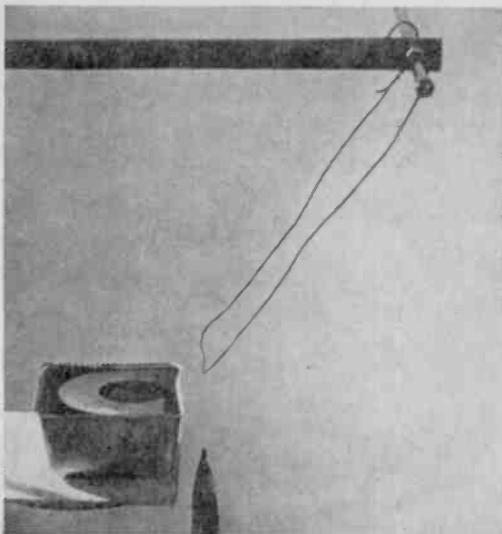

Fig. 10: Iron wire swing is strongly attracted to magnet submerged in water in aluminum pan.
**Extreme Heat** can rob iron of its magnetic response. This is the basis for the simple magneto-heat engine in Figs. 10 and 11. Support